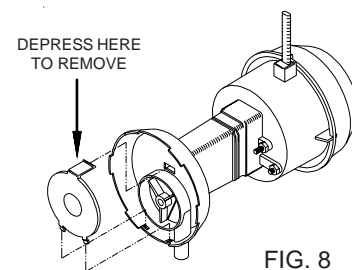

FIG. 8
- **Clean pump.** Cleaning the pump is necessary once a year at start-up. For your safety, turn unit off and unplug from power receptacle. Remove the pump from the mount slot. Remove the base of the pump as shown in Fig. 8. Clean the pump and turn the impeller to ensure free operation. Remove the pump spout and check for any blockage. After cleaning, reinstall the base onto the pump. Reattach the pump to the mount in the cooler using the plastic retainer to ensure that the pump will not overturn. Do not forget to replace the spout and water delivery tube onto the pump outlet.